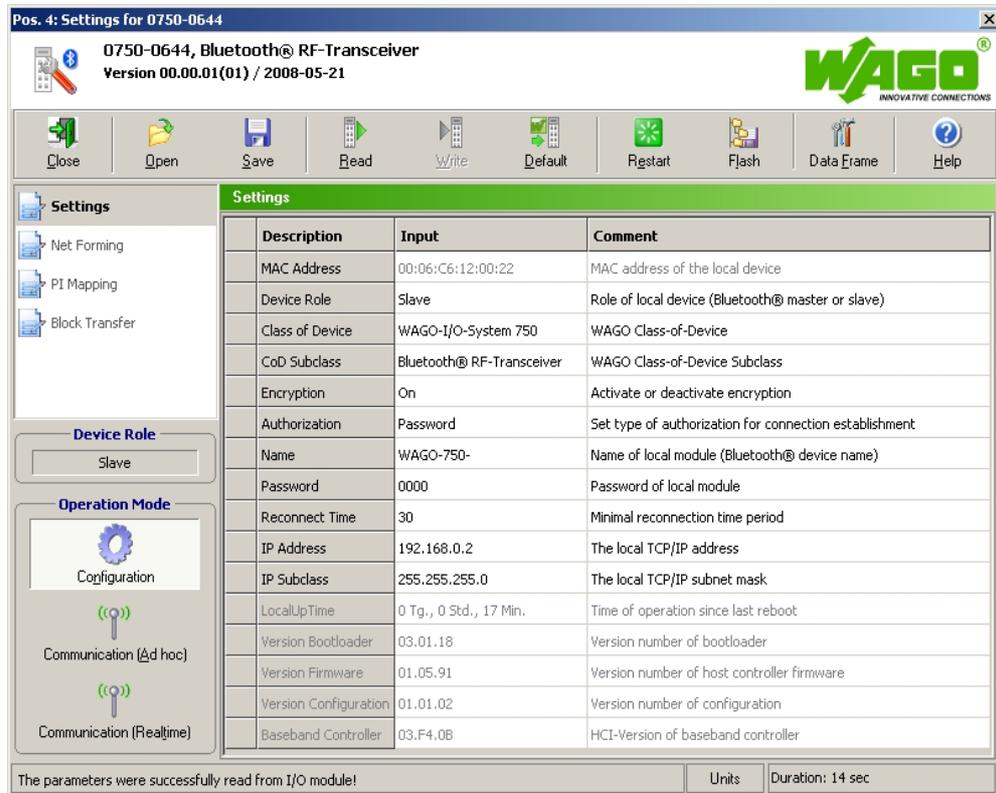

Figure 3: *Bluetooth*®-specific parameter area
- In the module's context menu, choose **Settings**. This opens the *Bluetooth*®-specific parameterization dialog of the module (see Figure 3).